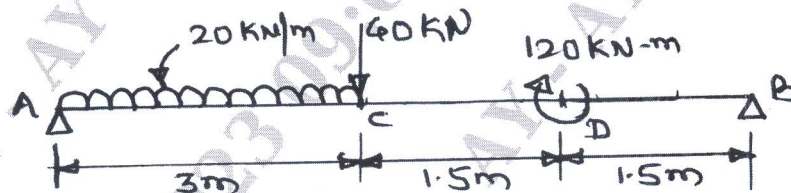

Fig.Q5(b)
b. Draw the shear force and bending moment diagram for the beam shown in Fig.Q5(b).